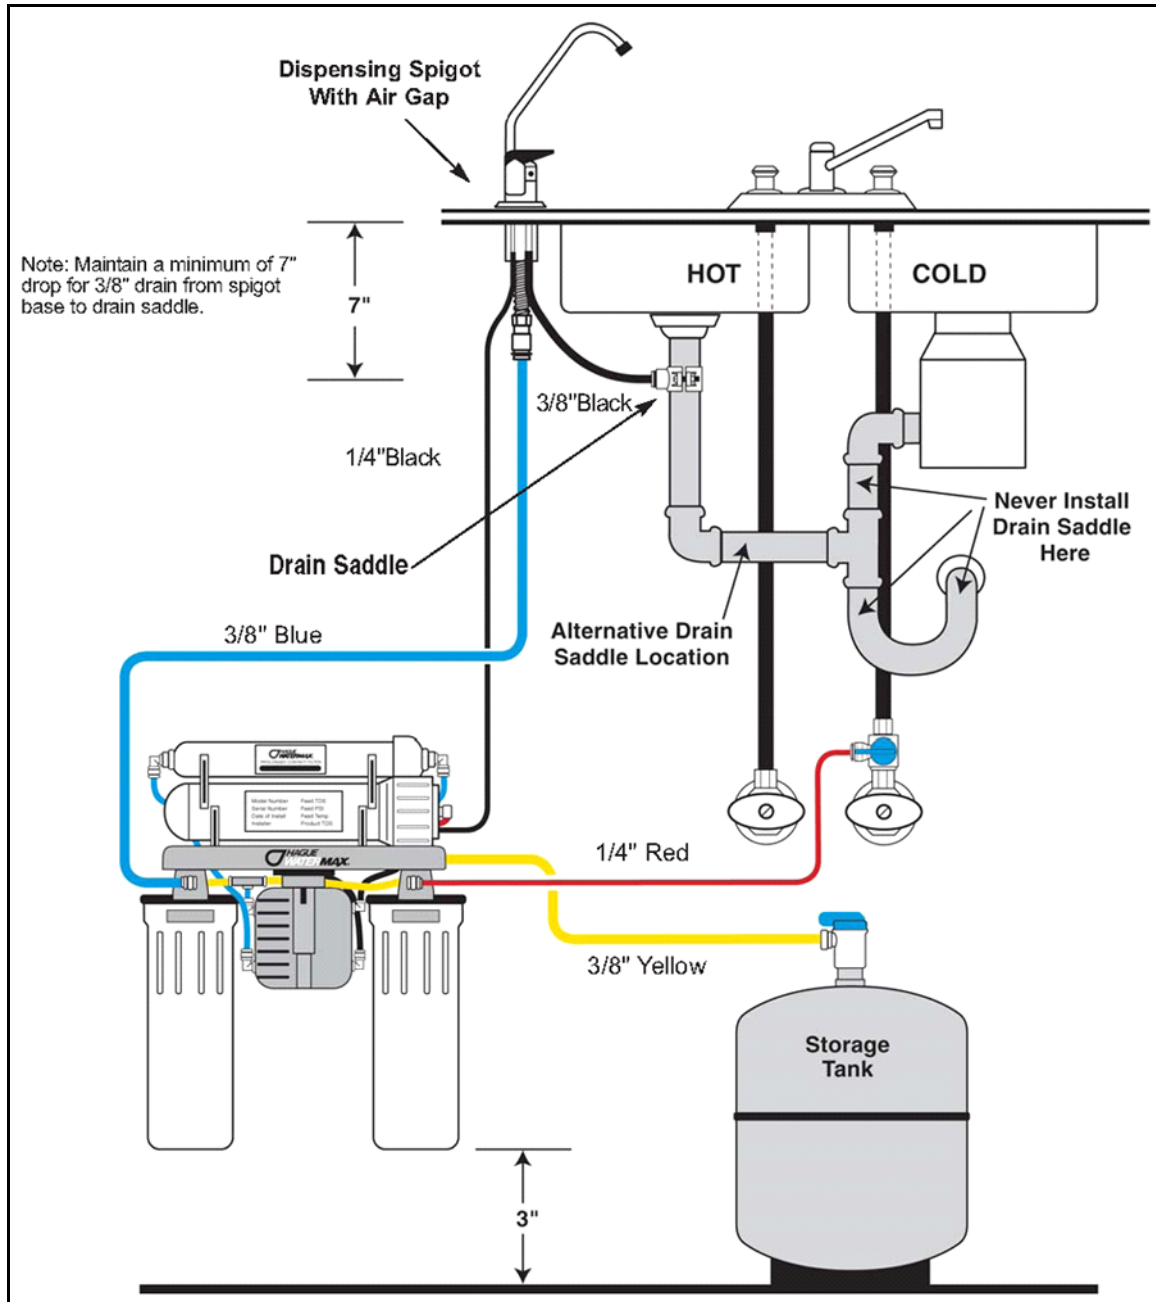

Figure 2: Installation Diagram
Study the overall installation diagram (See Figure 2) before proceeding, to familiarize yourself with the general layout of the appliance.
- B. Using the diagram in Figure 2, from under the sink, feed the pre-connected 1/4" black tube and the pre-connected 3/8" blue tube from the RO assembly through the hole in the sink. Remove the red locking clip from the spigot adapter, slip the blue tube into the spigot adapter, and replace the red locking clip. Slip the 1/4" black tube onto the small hose barb on the base of the spigot.
- D. Cut the 3/8" black tube to desired length and connect to the drain saddle with the provided clip. (See Figure 2)